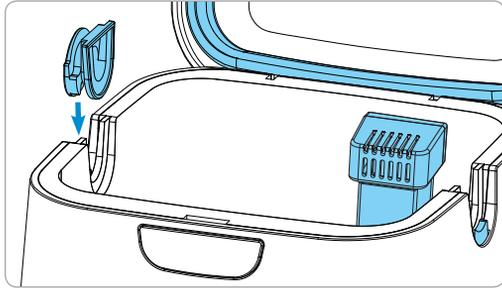

Figure 6. Install Removable Hose Slot Plug
2. Install the Removable Hose Slot Plug into one open slot (figure 6).
Orient the Removable Hose Slot Plug as shown in figure 6. The round face of the Removable Hose Slot Plug is outside of the SoClean 2.
3. Remove outer plastic wrapping and blue tape from the Cartridge Filter and fully seat it in the Cartridge Filter Slot at the back-right corner of the SoClean Chamber. Ensure proper installation by orienting the Cartridge Filter vents to face the front of the machine as pictured in figure 6.